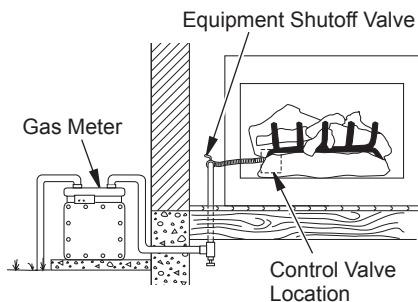

Figure 14 - Checking Gas Joints for Natural Gas
3. Check all joints from gas meter to equipment shutoff valve for natural gas or propane/LP supply to equipment shutoff valve for propane/LP (see Figure 14 or 15). Apply noncorrosive leak detection fluid to all joints. Bubbles forming show a leak.
4. Check all joints from equipment shutoff valve to control valve (see Figure 14 or 15). Apply noncorrosive leak detection fluid to all joints. Bubbles forming show a leak.